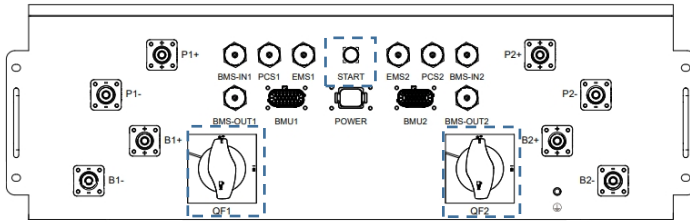

Figure.3
- ⑦ Press the **START** button, turn on the BAT MCCB **QF2** and **QF1** on the DC PDU. See the Figure.3.